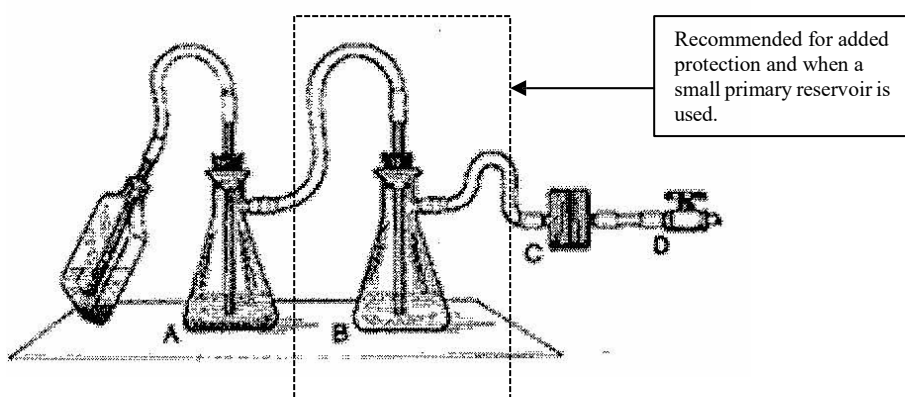

Figure 1.0 Optimal Protection for Vacuum Systems
- At a minimum, the vacuum pump or vacuum system must be protected with at **least one primary reservoir and HEPA** filter assembly when the possibility for contamination exists. For an extra margin of safety or when the primary reservoir is a small flask that is prone to overfilling, it is recommended that a two-reservoir system (Figure 1.0) be used.